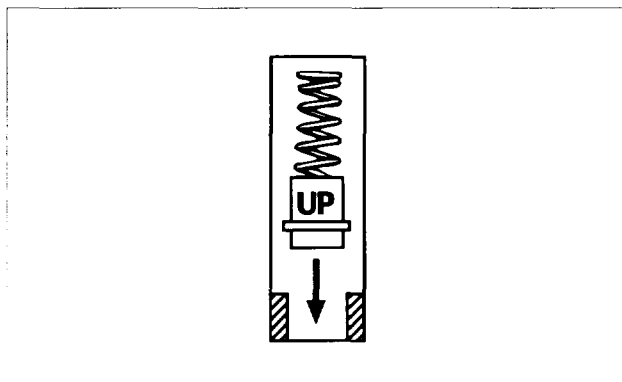

FIG. 16
7. Reassemble in reverse order the springs, collar (note the proper direction from Fig. 16), cover and retaining ring. Rotate the retaining ring at least 90° from the slot in the housing.